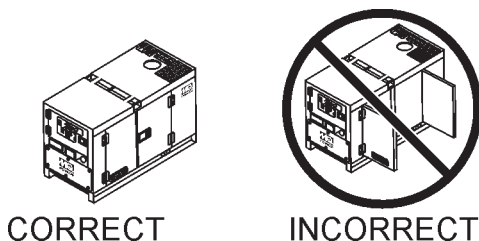

Figure 29. Engine Enclosure Doors
4. Close all engine enclosure doors (Figure 29).